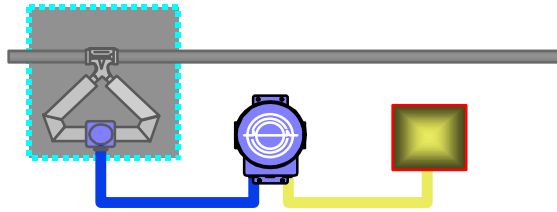

Figure 2
- Product Configuration ...see figure 2